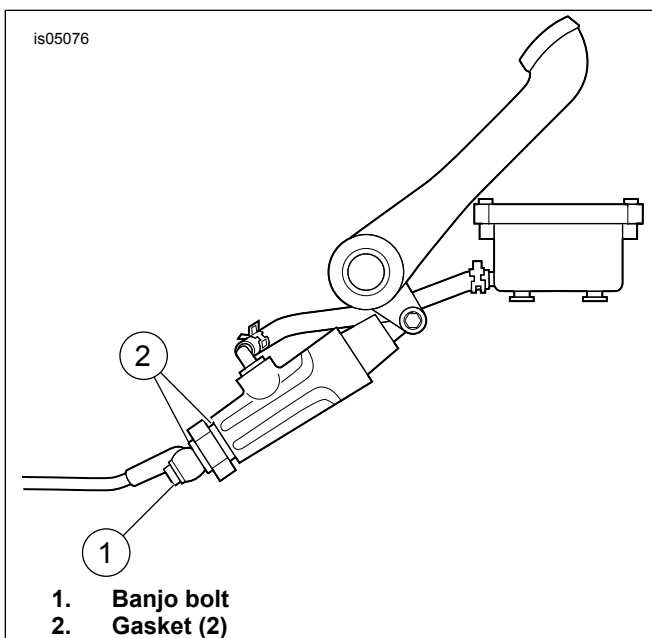

Figure 3. Rear Brake Master Cylinder/Reservoir
2. See Figure 3. Remove the banjo bolt (1) and two gaskets. Discard banjo bolt and gaskets.
3. Lubricate **new** gaskets (2) with appropriate clean brake fluid.